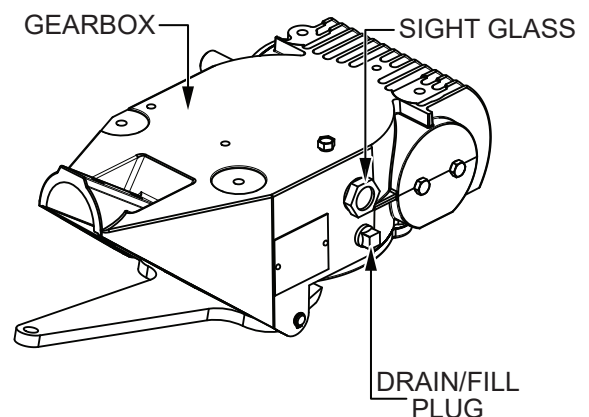

Figure 16. Gearbox Oil
1. Look at the sight glass on the side of the gearbox (Figure 16) to determine if gearbox oil is low. The correct oil level is to the halfway point on the sight glass.
2. If gearbox oil is low, remove the drain/fill plug (Figure 16) and fill with Chevron Cetus HiPerSYN 460 synthetic gear oil until the correct oil level is reached. Replace the drain/fill plug when finished.